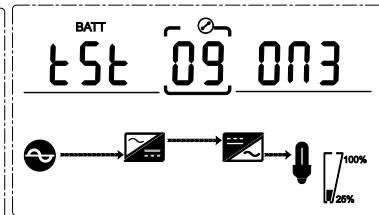

Fig. 4-24 Autotest ON3
- When choosing **ON3**, UPS can transfer to Battery Mode automatically per 30 days. And the Battery Self-test time is to **End Of Discharge (EOD)** (Fig. 4-24).